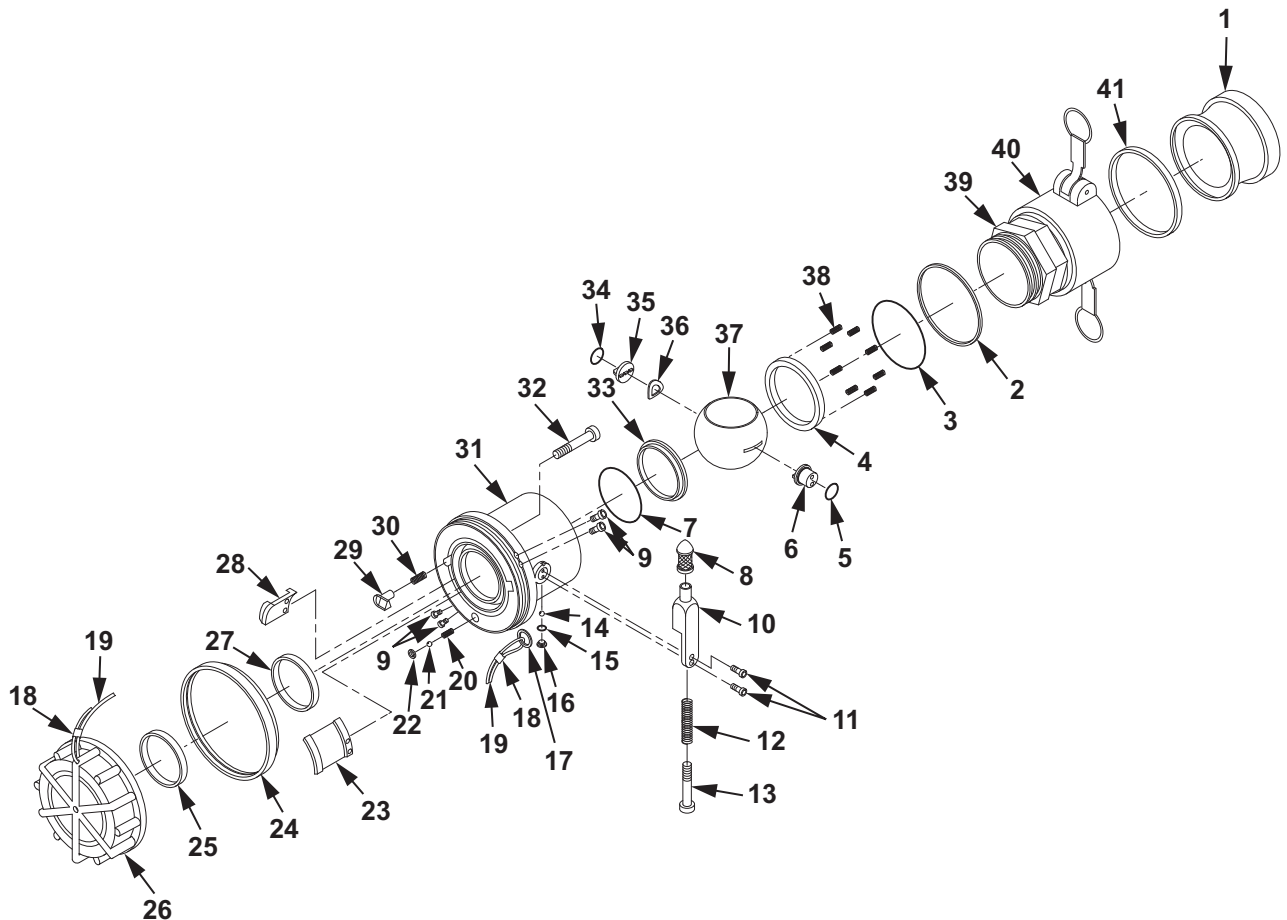

Figure 2. Valved Dry-Break Coupling Disassembly.
If it is necessary to replace bumper (Figure 2, Item 24) or lugs (Figure 2, Item 23, 28), perform the following steps.
30. Remove bumper (Figure 2, Item 24) from coupling (Figure 2, Item 31).
31. Remove screws (Figure 2, Item 9) from coupling (Figure 2, Item 31).
32. Remove lug (Figure 2, Item 23) or lug (Figure 2, Item 28) from coupling (Figure 2, Item 31).
Do not remove spring washer (Figure 2, Item 22), ball bearing (Figure 2, Item 21) or spring (Figure 2, Item 20). If replacement of ball bearing (Figure 2, Item 21) is required, then coupling (Figure 2, Item 31) must be replaced.
If it is necessary to replace lockout pin (Figure 2, Item 29), perform the following removal steps.
33. Remove screw (Figure 2, Item 32) from coupling (Figure 2, Item 31).
34. Remove lockout pin (Figure 2, Item 29) from coupling (Figure 2, Item 31).
35. Remove spring (Figure 2, Item 30) from coupling (Figure 2, Item 31).
36. Remove dust plug (Figure 2, Item 1) from quick disconnect coupling half (Figure 2, Item 40).
37. Remove gasket (Figure 2, Item 41) from quick disconnect coupling half (Figure 2, Item 40).
38. Discard gasket (Figure 2, Item 41).
1. While holding the quick disconnect coupling half adapter (Figure 2, Item 39), turn the quick disconnect coupling half (Figure 2, Item 40) counterclockwise to remove the quick disconnect coupling half (Figure 2, Item 40) from the quick disconnect coupling half adapter (Figure 2, Item 39).
2. Remove quick disconnect coupling half (Figure 2, Item 40).
2. Inspect bumper (Figure 2, Item 24) for cracks, tears or cuts. If cracks, tears or cuts are found, replace with a serviceable like item.
3. Inspect dust cap (Figure 2, Item 26) for cracks or damage. If cracks or damage is found, replace with a serviceable like item.
The purpose of ball bearing (Figure 2, Item 21) is to provide electrical continuity between mating surfaces.
4. Inspect ball bearing (Figure 2, Item 21) located in face of coupling for damage. Push the ball bearing (Figure 2, Item 21) in and ensure it pops back into place. If damage is found or ball does not pop back into place, replace coupling (Figure 2, Item 31).
5. Inspect control arm (Figure 2, Item 10) for cracks or damage. If cracks or damage is found, replace with a serviceable like item.